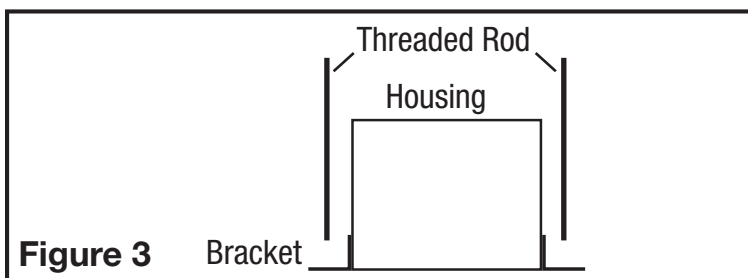

Figure 3
- Hanging Bar Mounting:** Lift unit up onto the threaded rods and secure in place using appropriate hardware (not included) (Figure 3).